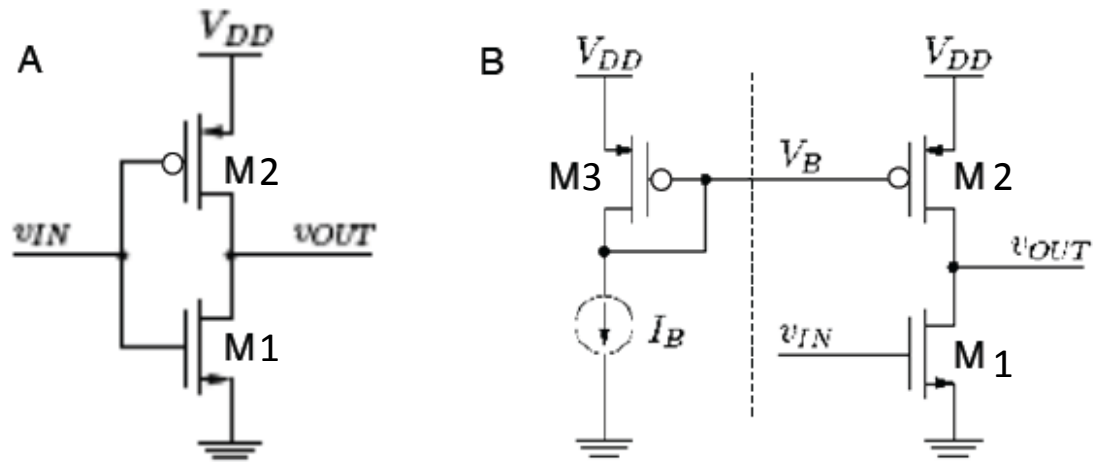

Figure 7: Two CMOS inverters: (A) a CMOS inverter, (B) a pseudo-NMOS inverter.
In Figure 7 are the circuit diagrams for two CMOS inverter. The one to the left, (A), is an ordinary CMOS inverter, while the one to the right, (B), is a pseudo-NMOS inverter with a static PMOS load, M2. Transistor M2 is biased through a current mirror so that the bias current  $I_B$  flows also through the amplifier/inverter. In the two circuits the two MOSFETs marked M1 are identical, as are the three pMOS devices marked M2 and M3. Both inverters have the same switching voltage  $V_{sw}=v_{IN}=v_{OUT}=V_{DD}/2$ .